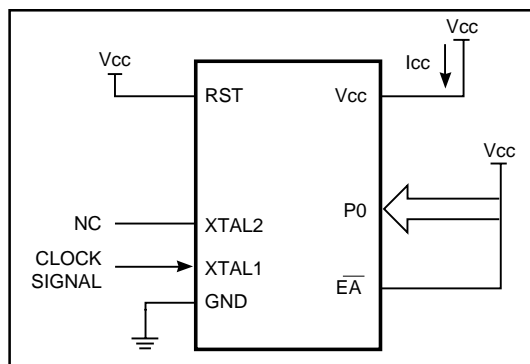

Figure 25. Active Mode
1. See Figures 25, 26, 27, and 28 for I_{cc} test conditions.